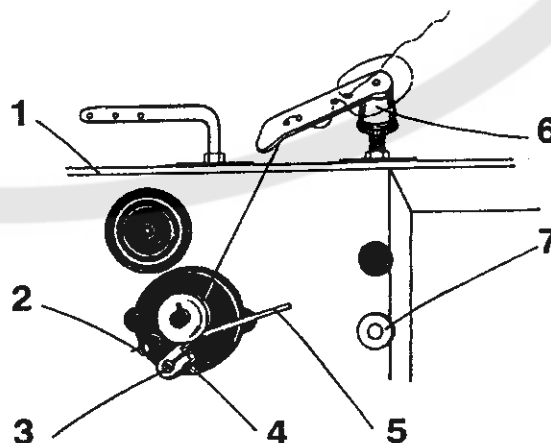

Figure 6
9. To wind the hook bobbin (Fig. 6)
Adjust the zigzag stitch to the zero width and turn the hand wheel until the needle bar with the needle reaches its bottom position. In case of transverse deviation from the central needle position screw out the four attachment screws, remove the upper cover (1, Fig. 6), take the plug (7, Fig. 6) out of the machine arm, loosen the screw (29) located under the upper cover of the machine arm, insert a screwdriver into the hole created by the plug removal, adjust the angular position of the eccentric pin (32) so as to set the needle transversely to the slot centre, retighten the screw (29), insert the plug into its hole, and mount the upper cover. Check the needle punch position at the maximum stitch width and be sure that there is a play between the needle and the slot side in each lateral position of the needle. With zigzag stitch width adjusted at zero,
The tooth play of the zigzag stitch transmission mechanism is actuated by the eccentric pin (6, Fig. 11). To adjust the tooth play, first screw out the four attachment screws (2, Table 1), remove the upper cover (1, Fig. 6), and loosen the screw (4, Table 10) located in the lug of the machine arm. By turning then the eccentric pin (6, Fig. 11) adjust the tooth play of the zigzag transmission mechanism, i. e., between the complete cam (9, Table 10) and the gear wheel (13, Table 4) mounted on the upper shaft (1, Table 4), then lock the adjusted position by thoroughly tightening the screw (4, Table 10).